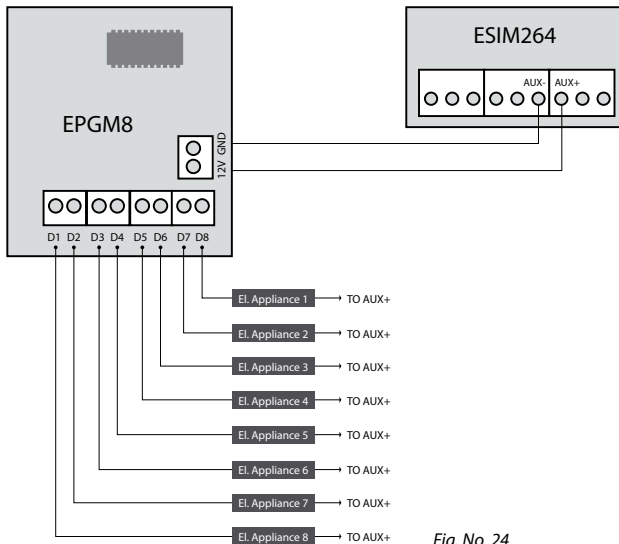

Fig. No. 24
3. Connect EPGM8 12V positive power supply contact with ESIM264 alarm system **AUX+** contact and EPGM8 GND contact with ESIM264 alarm system **AUX-** contact. (see Fig. No. 24).
4. Connect the electrical appliances to D1 – D8 PGM outputs. (see Fig. No. 24).